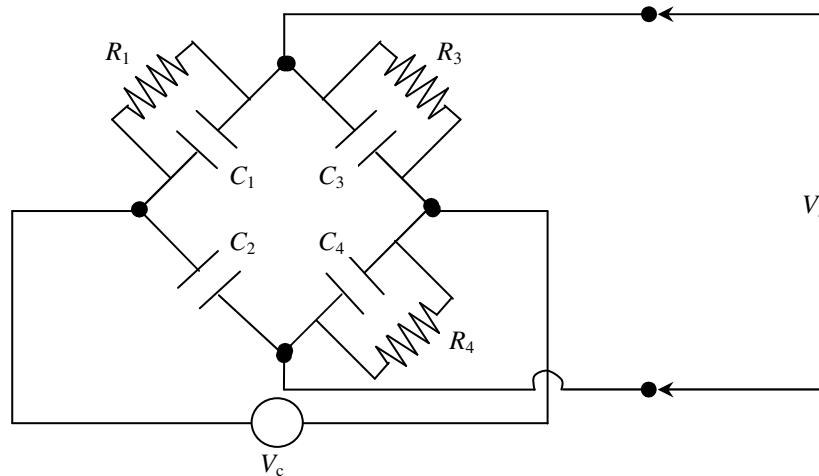

Fig. 4
4. A low-voltage Schering bridge shown in Fig. 4 is used to measure the unknown permittivity of a specimen using 2-plate capacitor,  $C_1$  with area  $A$  and distance  $d$ .
Referring to Fig. 4,  $R_1$  is a stray resistor,  $R_3$  and  $R_4$  are pure non-reactive resistors, and  $C_2$ ,  $C_3$  and  $C_4$  are pure non-reactive capacitors. Without the specimen the following balanced condition are attained:  $C_3 = C_4 = 120$  pF,  $C_2 = 140$  pF and  $R_3 = R_4 = 5000 \Omega$ . With the specimen the values changed to  $C_3 = 200$  pF,  $C_4 = 1000$  pF,  $C_2 = 900$  pF, and  $R_3 = R_4 = 500 \Omega$ . If  $V_c = 10$  V (RMS) and  $\omega = 5000$  rad/s, calculate the relative permittivity of the specimen.